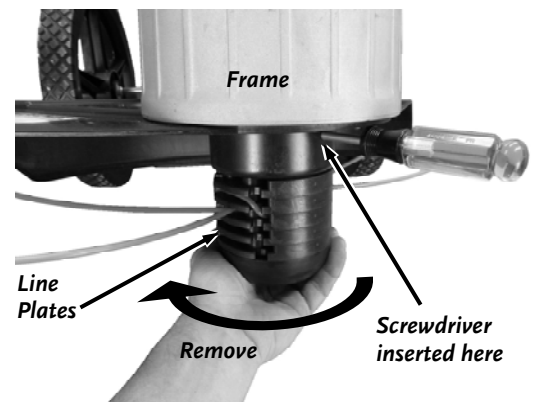

Figure 2
1. Insert the Screwdriver into the hole in the Anti-Wrap Can and rotate the Mow-Ball® until the tool slides into a second hole in the shaft, locking it into place (**Figure 2**).